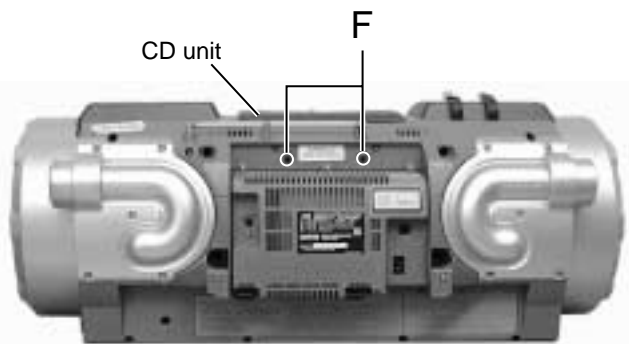

Fig.9
■ Removing the CD unit (See Fig.9 to 12)